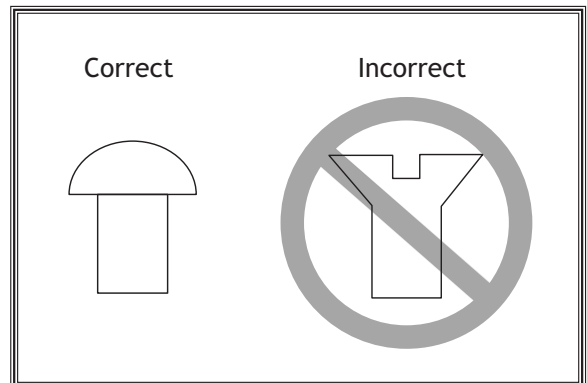

Figure 34. Correct/incorrect screw types for mounting faceplate to workpiece.
Note: If your workpiece is over 2" x 2", cut corners off workpiece lengthwise to make turning safer and easier (see **Figure 34**).
2. Center faceplate on workpiece, securely attach workpiece to faceplate—only use wood screws WITHOUT tapered heads (see **Figure 34**).